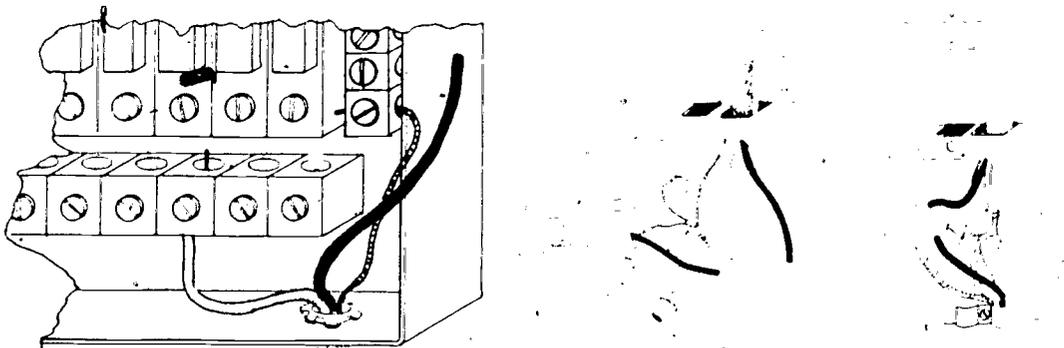

FIGURE 4
L. Connect all neutral conductors (Figure 4)